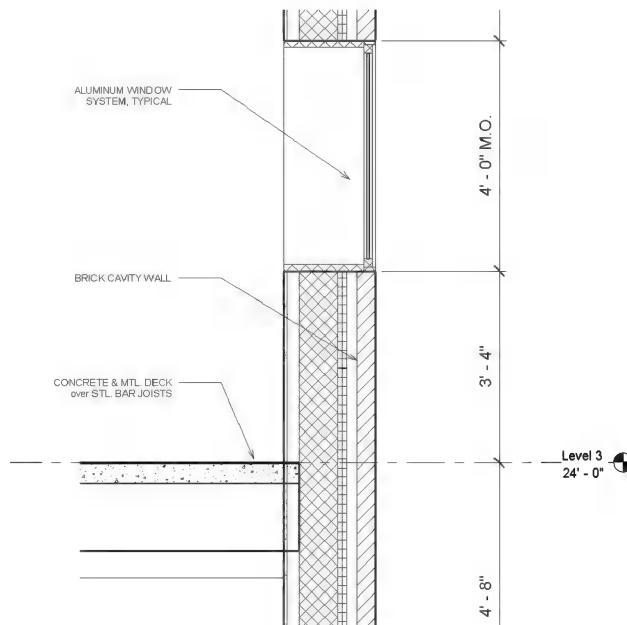

FIGURE 10-4.5 Notes added
9. Add the notes with leaders shown in Figure 10-4.5. (See step 10.)
11. Select the text and use the grips and the justification buttons to make the text look like **Figure 10-4.5**.